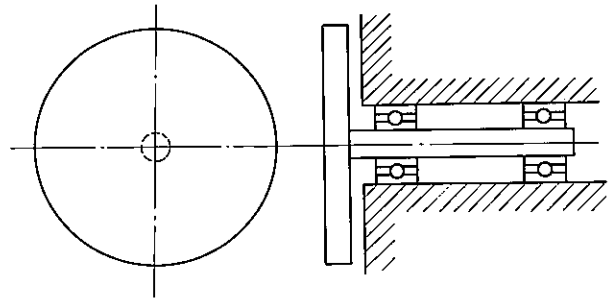

Fig. 1
1. If the swing lever is moved to the swing left position, the oil delivered from the pump flows to port PA through the control valve. It pushes open check valve C1 and flows to swing motor inlet port MA. As a result, the pressure at port MA rises, starting torque is generated in the motor and the motor begins to rotate. The oil from port MA enters chamber SA at the left side of shuttle spool (2), and pushes the shuttle spool to the right. The oil also flows through restriction D1 into chamber TA at the left side of timer spool (3) and pushes the timer spool to the right.
However, the oil in chamber TB at the right side of the timer spool is restricted by restriction D2, so it takes time for the timer spool to reach the end of its stroke (about 0.1 sec.). While the timer spool is moving to the right to the end of its stroke, the oil in the spring chamber of safety valve A flows through the notch in shuttle spool (2) to the low pressure circuit (port MB). As a result, safety valve A operates at the low pressure setting. In addition, the spring chamber of safety valve B is connected to port MB regardless of the movement of timer spool (3), so it is always at the high pressure setting. (Fig. 1)
In Fig. 1, a disc shaft is carried on bearings so that the disc is free to rotate. If force F is applied diagonally to this disc, the force F is divided into the components of force, F_1 (force perpendicular to the disc) and F_2 (circumferential force of the disc). F_1 pushes the disc in its axial direction and F_2 rotates the disc clockwise. If force F' is applied to the disc, the force F' is similarly divided into the components, F'_1 and F'_2 , F'_2 rotates the disc counterclockwise.